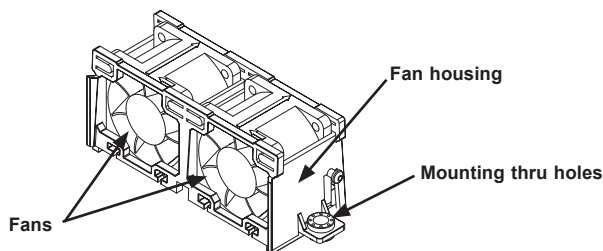

Figure 5-10. System Fans
4. Remove the fan housing from the chassis by removing the two screws which attach the housing to the chassis. These screws are located in the mounting thru holes on either side of the fan housing. (See figure 5-10). Set these screws aside for later use.